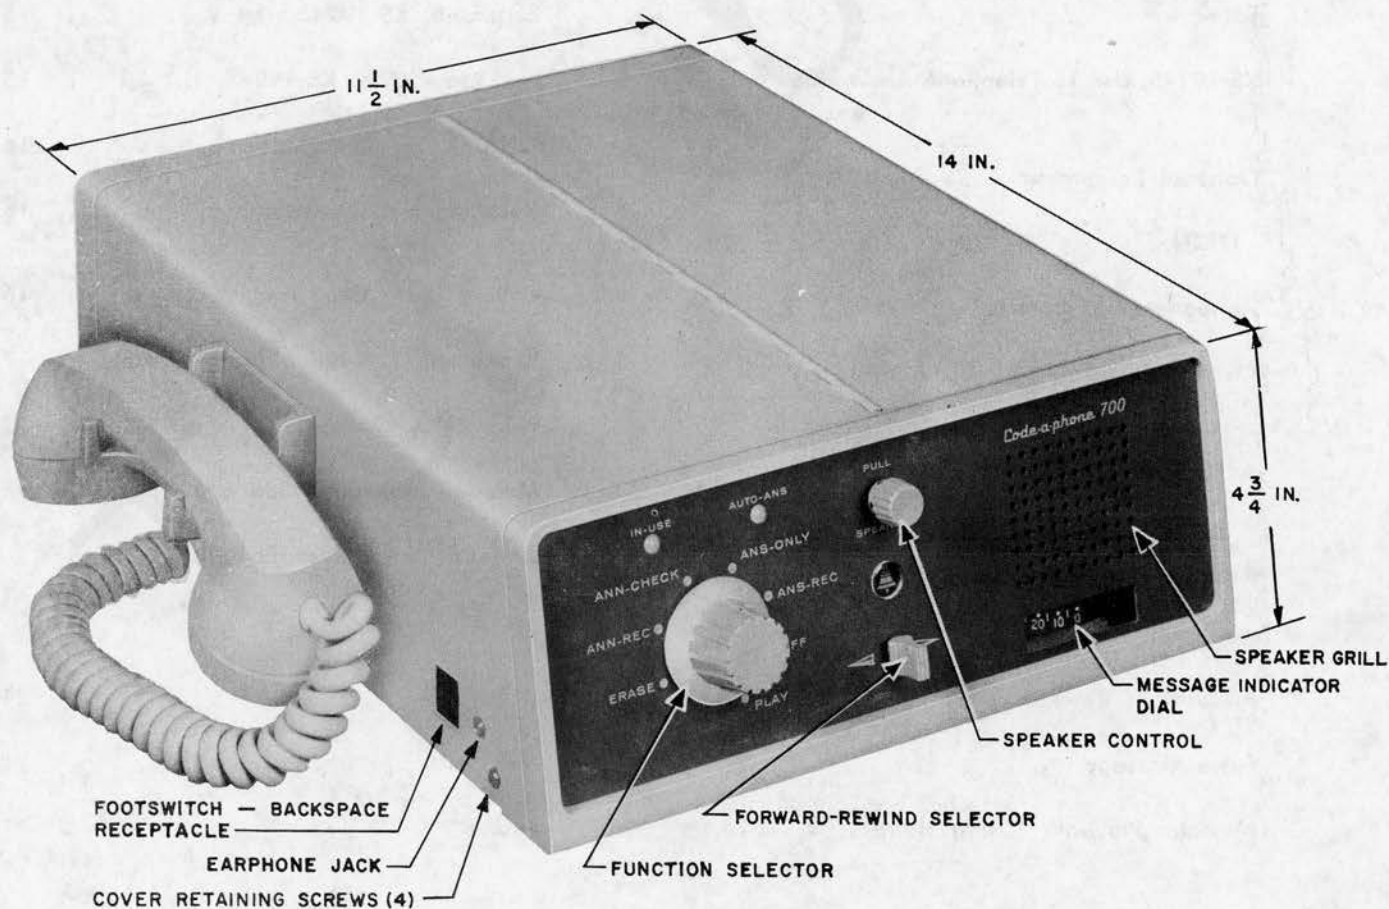
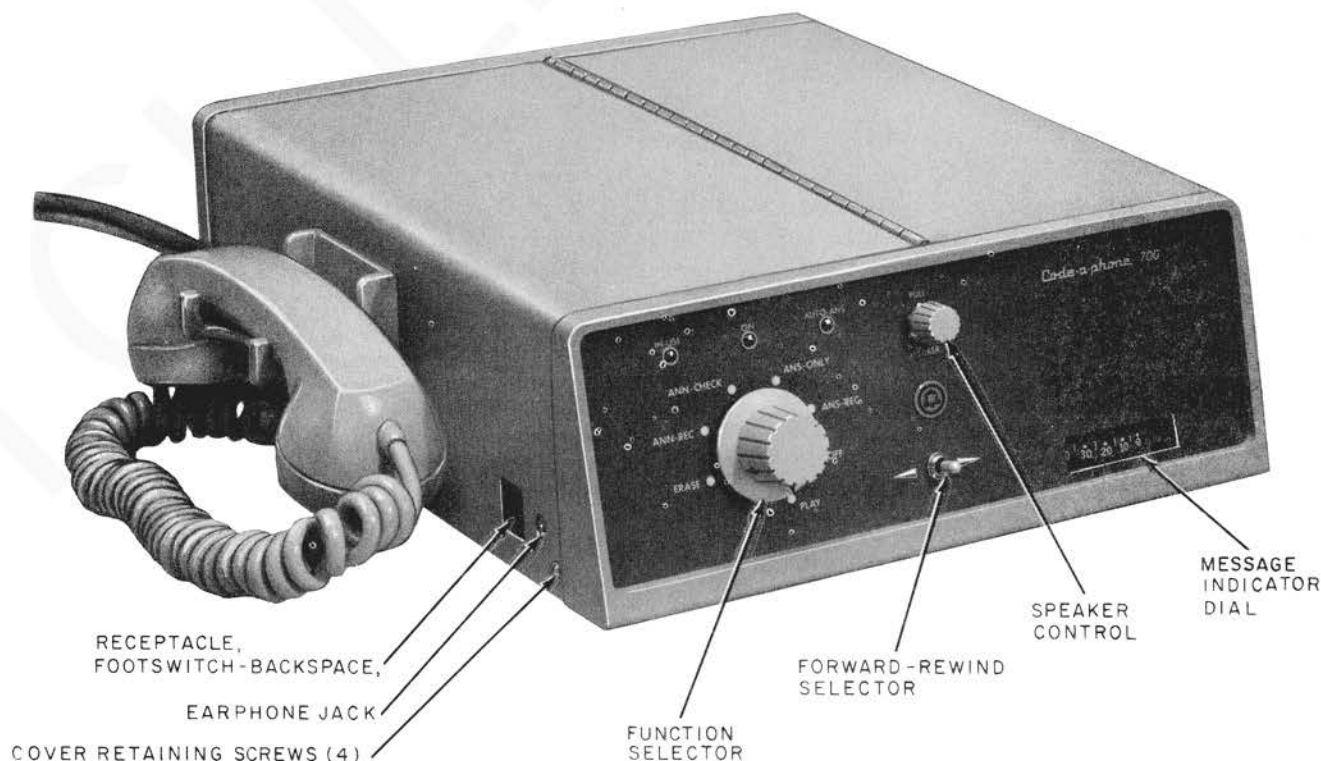

Fig. 1—KS-19245, List 1 Telephone Answering Set
Fig. 2—KS-19245, List 13 Telephone Answering Set
2.01 The KS-19245, Lists 1 and 13 telephone answering sets (Fig. 1 and 2) are automatic answering sets for either answer and record, or answer only service.
1.01 This section covers identification, installation, operation, and connection information on the KS-19245, List 1 (MD) (Fig. 1) and List 13 (Fig. 2) telephone answering set.
- Housed in a metal case. The cover has a light olive gray textured finish and the front panel has a blue-gray enamel finish. Dimensions of the Lists 1 and 13 sets are shown on Fig. 1. Weight of List 1 set is 31 pounds and List 13 set is 24 pounds.
4.01 Refer to Fig. 1 or 2.